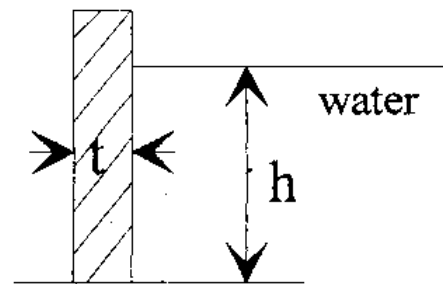

Fig. 2
2. A group of wooden beams is used as a dam as shown in Fig. 2. To what thickness  $t$  of the beams can the water be raised if the maximum bending stress  $\sigma_{\max}$  is not to exceed 15 MPa? Take  $h = 3.253$  m, and the weight of the water is  $9.81\text{ kN/m}^3$ . (25%)